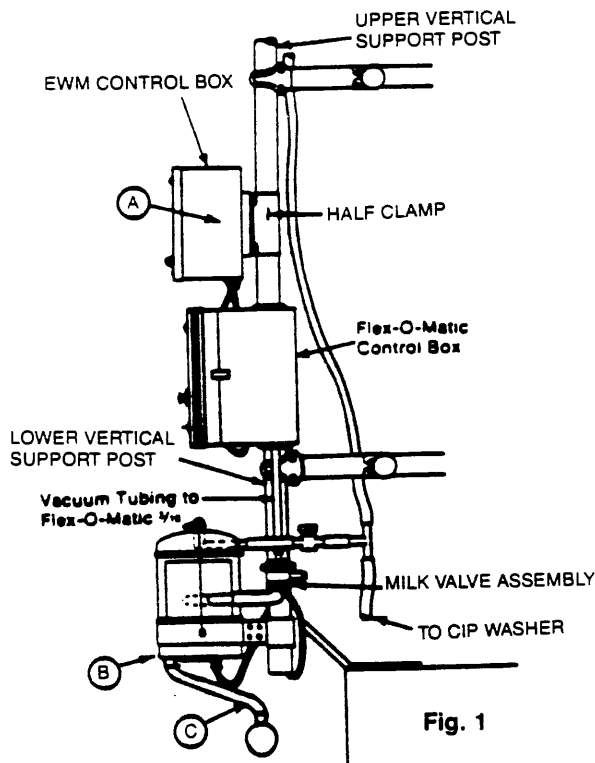
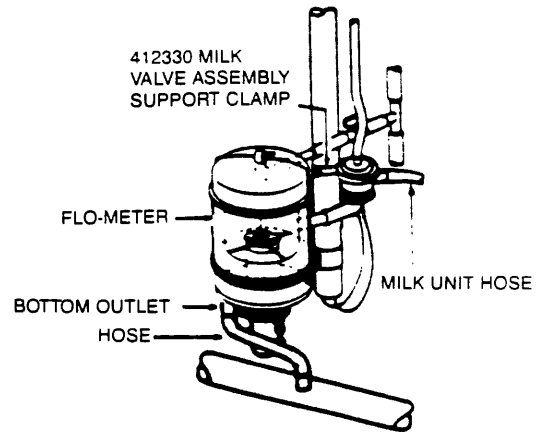

Fig. 1
Fig. 2
1. Mount the EWM Control Box on the upper vertical support post immediately above the A.T.O. Control Box. A half clamp is provided for this purpose. (See Fig. 1, item A)
2. Attach the 350015 Flo-Meter in a level position to the bottom of the lower portion of the A.T.O. vertical support post as illustrated. (See Fig. 1, item B)
3. Attach milk hose from the bottom outlet nipple of the Flo-Meter to a milk inlet nipple on the milk line. Be sure that this hose does not have a loop or kink in it. It is important that this milk tube run in a downward position. (See Fig. 2 and Fig. 1, item C)